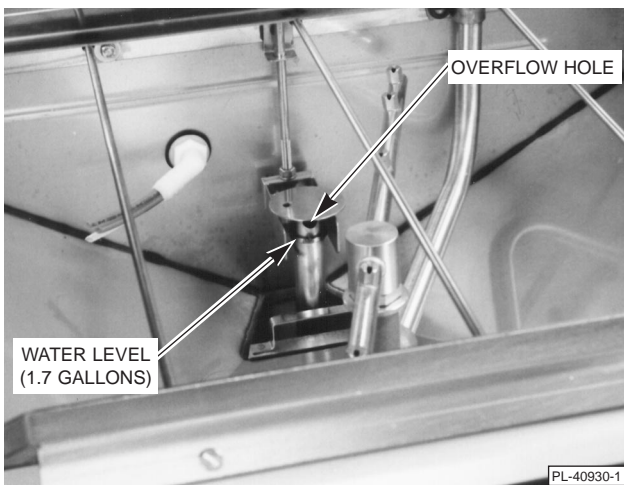

Fig. 14
4. The **Fill/Flush** cam controls power to the fill valve. During the last three seconds of drain time, the fill valve opens to provide a fresh water flush of the wash chamber. This flush time may be increased or decreased, as required by local operating conditions, by rotating the right half of the cam. At 20 psig flowing pressure, the required quantity of water, 1.7 gallons, is allowed to flow into the dishwasher. If flowing pressure is different than 20 psig (or if drain flush time has been changed), the fill time will need to be increased or decreased to allow the dishwasher to operate with a minimum of 1.7 gallons of water. Reference Fig. 14 (page 10) to identify the required 1.7 gallons Water Level Mark.
To initially fill the machine, press the *POWER* switch On and press and hold the *DRAIN/FILL* switch on Fill for approximately ten seconds. Water level should be at the bottom of the ring on the drain tube (1.7 gallons) (Fig. 14). (Water to the top of the ring would be 1.9 gallons, and to the bottom of the overflow hole would be 2.3 gallons.) The overflow hole will automatically drain any excess water.